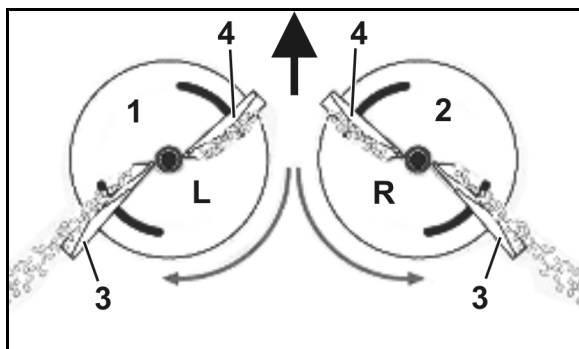

Fig. 27
- Left spreading disc (Fig. 27/1) with mark **L**.
- Right spreading disc (Fig. 27/2) with mark **R**.
- Long (Fig. 27/3) - Adjustment scale with values from **30** to **50**.
- Short (Fig. 27/4) - Adjustment scale with values from **0** to **20**.